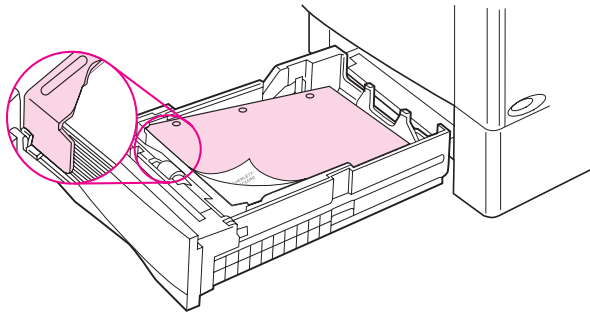

Figure 12 Paper Orientation for All Other Trays
- Load labels in Tray 1 with the side-to-be-printed facing up, and the top, short edge toward the printer. For orientation in other trays, see Figure 12 on page 46.
- A stack of 50 to 100 transparencies can be printed from other trays. Because transparencies are heavier than paper, do not load the other trays to capacity. For orientation in other trays, see Figure 12 on page 46.